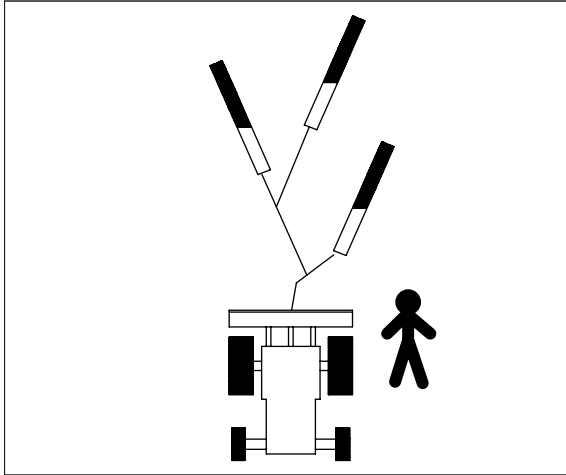

Fig. 5.
- Always position the tractor on a flat ground in line with the direction of the pull (see fig. 5.). Avoid working in steep terrain. Ensure nothing is blocking the path of trees.